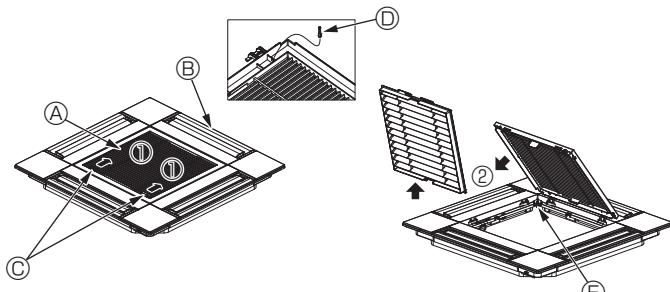

Fig. 5-3
- (A) Main unit
- (B) Ceiling
- (C) Gauge (Accessory)
- (D) Ceiling opening dimensions
5.2.1. Removing the intake grille (Fig. 5-3)
- Slide the levers in the direction indicated by the arrow ① to open the intake grille.
- With the intake grille in the "open" position, remove the hinge of the intake grille from the grille as indicated by the arrow ②.
- (A) Intake grille
- (B) Grille
- (C) Intake grille levers